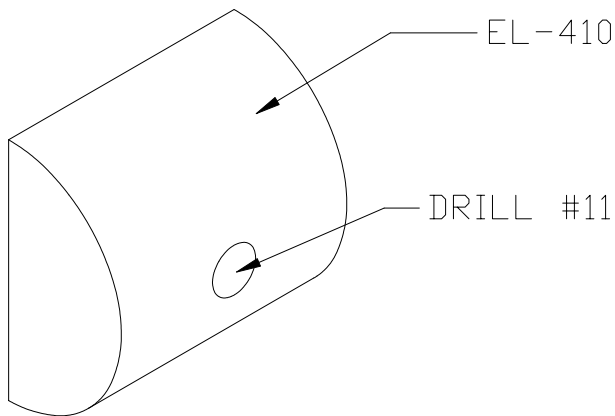

Figure 7
- 33) Drill #11 holes through four EL-410 Stop Blocks. Countersink for AN509-1032-19R machine screws. Figure 7.